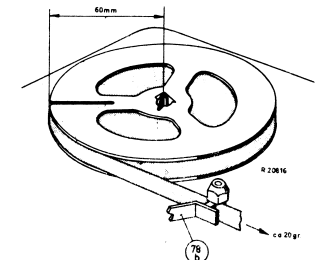

Fig 32b
- The force with which the tape is kept taut during playback should be approx. 20 gr, measured with a reel with 120 mm tape (full 5" reel), see fig. 32b. This friction is obtained by the braking action of the driving cord of the counter and the braking action of brake bracket 78b, which presses the tape against the left-hand tape guide.